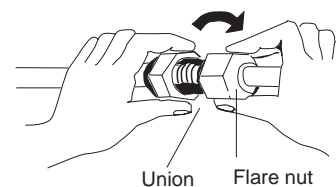

Fig. 13
- c) For proper connection, align the union tube and flare tube straight with each other, then screw in the flare nut lightly at first to obtain a smooth match. (Fig. 13)